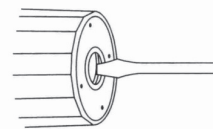

Fig. 5
- carefully slacken and remove the vent plug (Fig. 5).